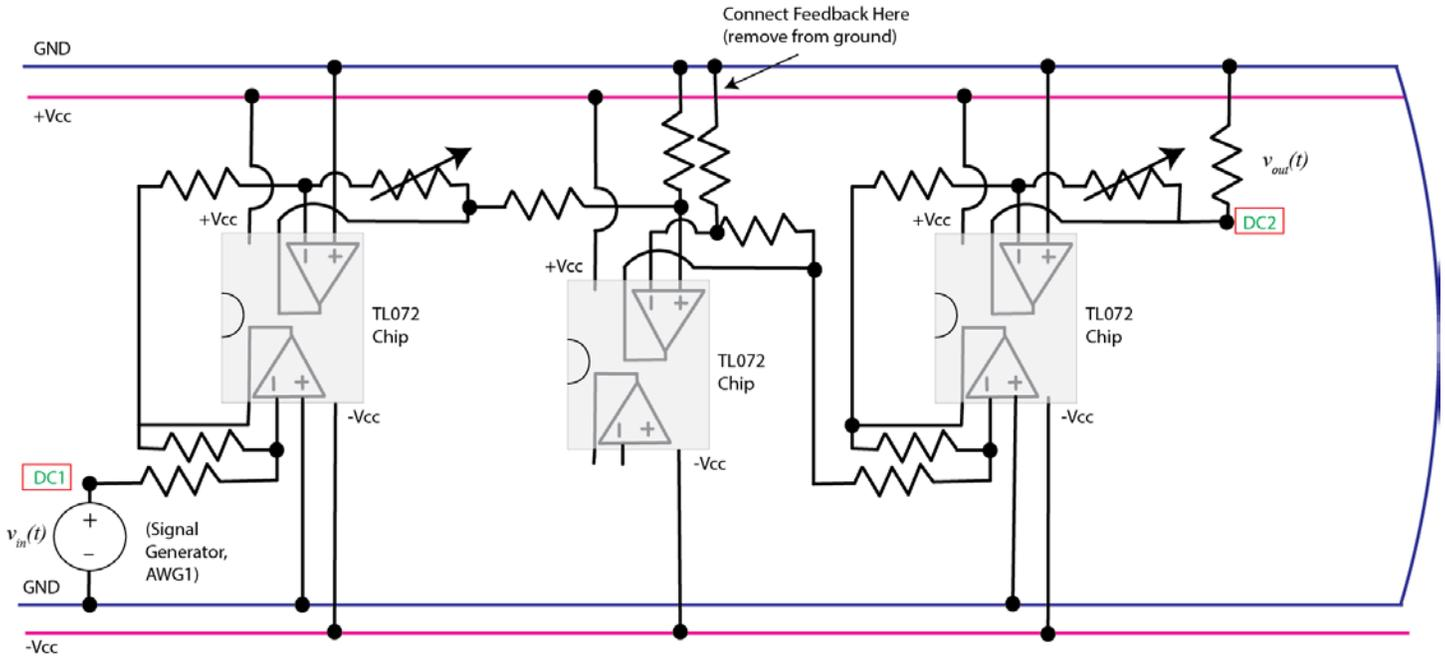

Figure 5. Prefilter, differential amplifier, and proportional controller.
7) Connect the first three stages of your system, as shown in Figure 5. The output should match the input. If it does not, modify the variable resistor on the controller. Be sure to remove the load resistor before you go on.